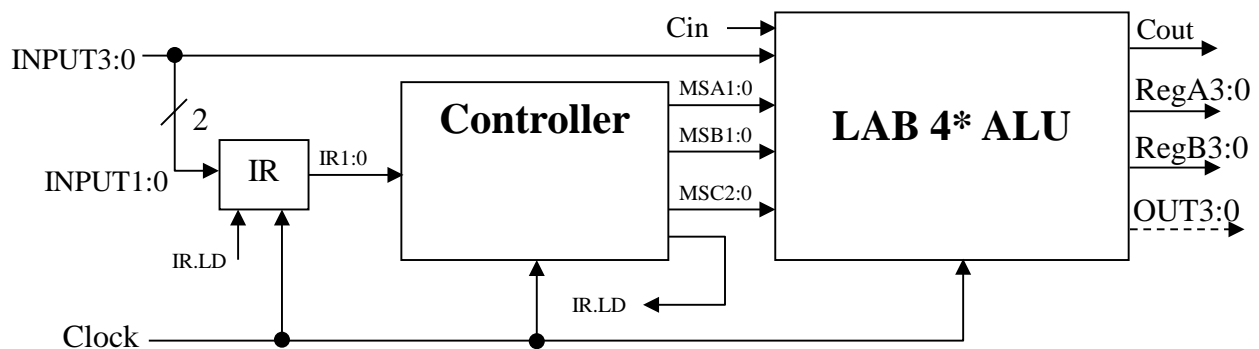

Figure 1. Block diagram of system components.
A state machine controller and Instruction Register (IR) are now added to the Lab 4* ALU to facilitate the execution of simple instructions. See Figure 1 for the total system components of this section. The IR register contains **2 bits** that represent the four instructions shown in Table 3. Note that the right shift is **NOT** sign-extended, i.e., a zero is shifted into the most significant bit of REGA with the SRA instruction. In this part of the lab, you will ultimately use Quartus to make the project **LAB6_Part1**.